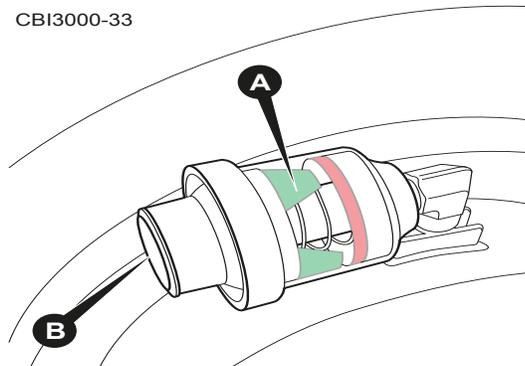

Figure 6.45 - Inspect Air Filter Indicator
2. Inspect Indicator - Inspect the indicator (Figure 6.45) for signs of damage, cracks, or potential leaks; replace immediately if any are noted.
3. Read Indicator - Observe the yellow plunger inside the barrel of the filter indicator (Figure 6.45 / A). If the plunger is in the green zone (< 25" of H₂O), then the filter is fine. If the plunger is in the red zone (> 25" of H₂O), then the filter needs to be replaced.
5. Reset Indicator - Depress the yellow button on the end of the indicator (Figure 6.45 / B) to reset the plunger.
(18) Air Filter Unloader Valve Inspection